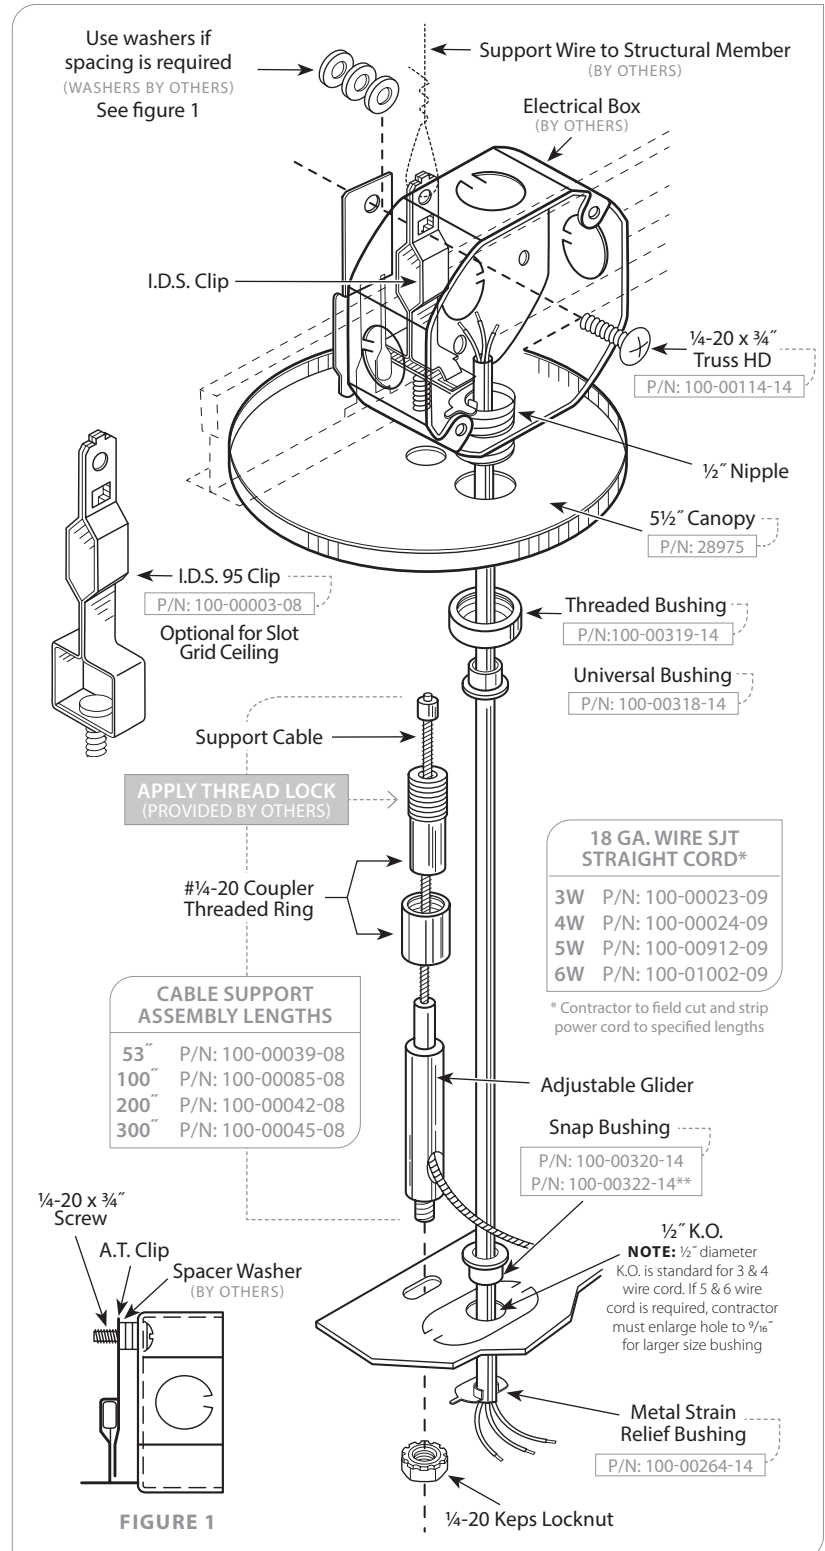

FIGURE 1
- Place 1/4-20 stud into square opening on the bottom of I.D.S. clip. Position I.D.S. clip on ceiling grid at required location. Place A.T. Clip onto ceiling grid. Slide A.T. clip against I.D.S. clip. Attach 3-1/2" octagonal electrical box to A.T. clip with 1/4-20 x 3/4" screw. Place washers between A.T. clip and electrical box. Secure box to grid. (See figure 1).